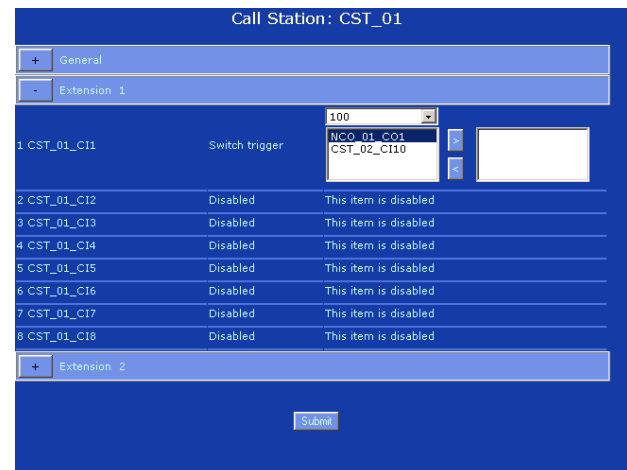

figure 38.39: Switch trigger, step 4
- 4 Select the priority that must be assigned to the action. See figure 38.39 for an example.